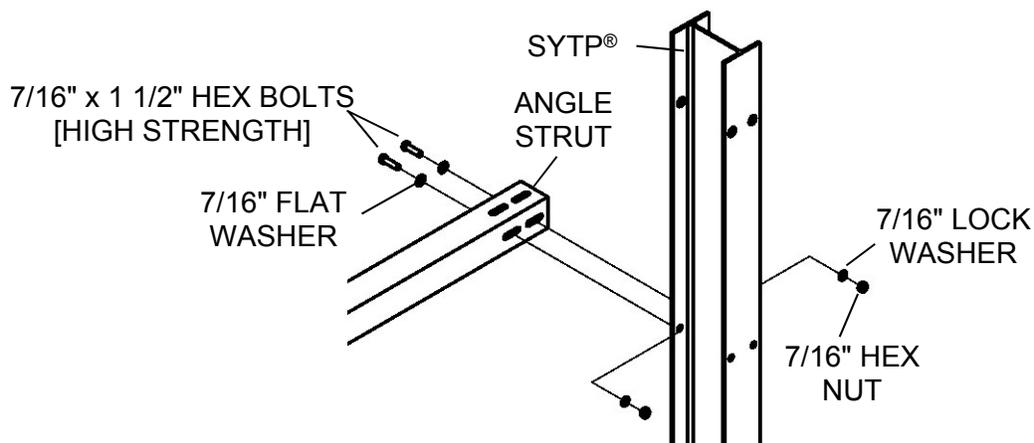

Figure 11 - Angle Strut Assembly
- 3.2 Attach the other end of the Angle Strut to the SYTP® using (2) 7/16" x 1 1/2" hex bolts [High Strength], (2) 7/16" flat washers, (2) 7/16" lock washers and (2) 7/16" hex nuts. Place the flat washers between the bolt heads and the Angle Strut and the lock washers under the hex nuts as shown in Figure 11.